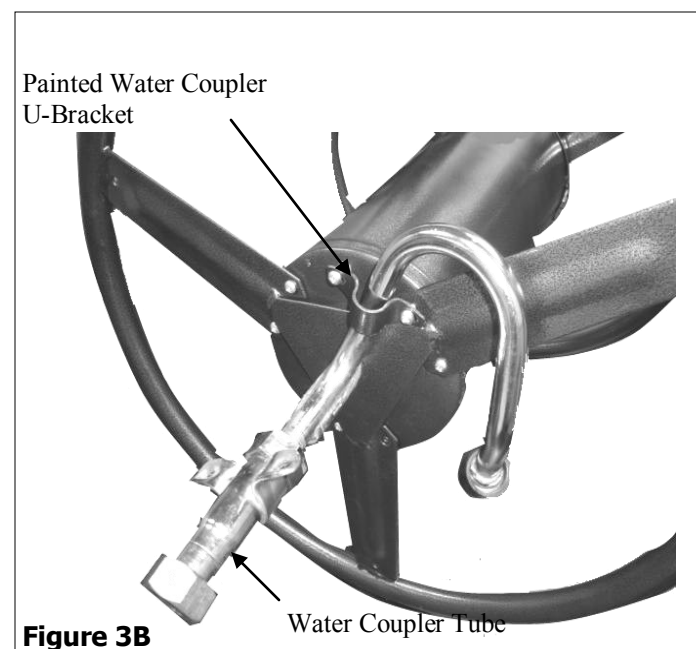

**Figure 3A**
3. Attach Hose Reel End to the Center Hub using (6) M6 x 15 Screws. Repeat opposite side. See figure 3A.